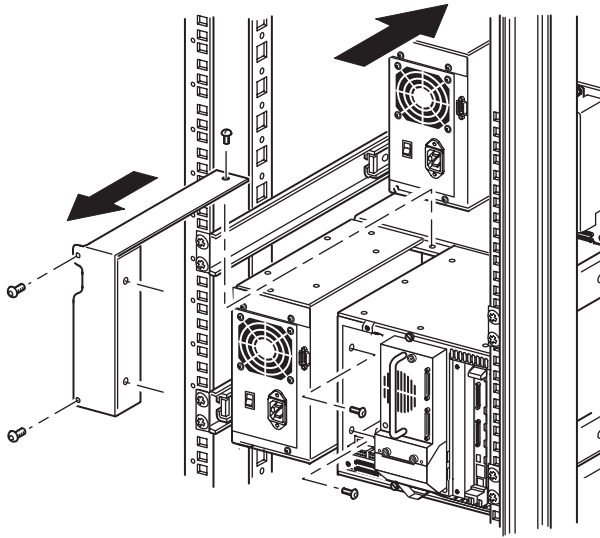

Figure 8 Removing the PTM cover plate
NOTE: Each library needs to be pulled out sequentially from the front of the rack enclosure to gain access to the top PTM cover plate screw on a lower library. See Figure 8 for screw locations.
- c. Using a #2 Phillips screwdriver, remove the screws that secure the PTM cover plate to the rear of each library chassis (see Figure 8).